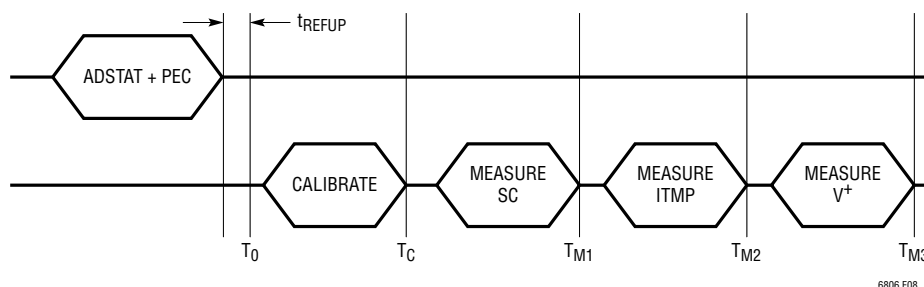

Figure 8. Timing for ADSTAT Command Measuring SC, ITMP, V⁺
The ADSTAT command is a diagnostic command that measures the following internal device parameters: sum of cells (SC), internal die temperature (ITMP), and the V^+ power supply pin (V^+). These parameters are described in the section below. All the 4 ADC modes described earlier are available for these conversions. See the section on Commands for the ADSTAT command format. Figure 8 illustrates the timing of the ADSTAT command measuring all the three internal device parameters. Table 13 shows the conversion time of the ADSTAT command measuring all the three internal parameters.